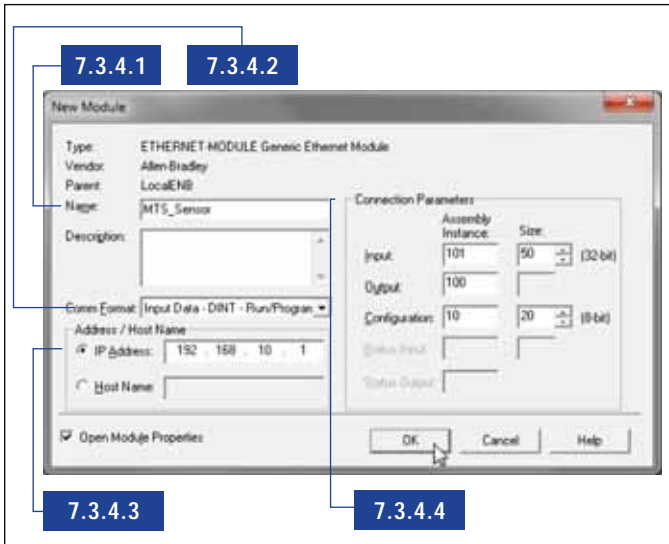

Fig. 71: New Module window
7.3.4 In the 'New Module' window (Fig. 71) perform step 7.3.4.1 – 7.3.4.4 to configure the new generic ethernet module to the R-Series EtherNet/IP™ sensor.